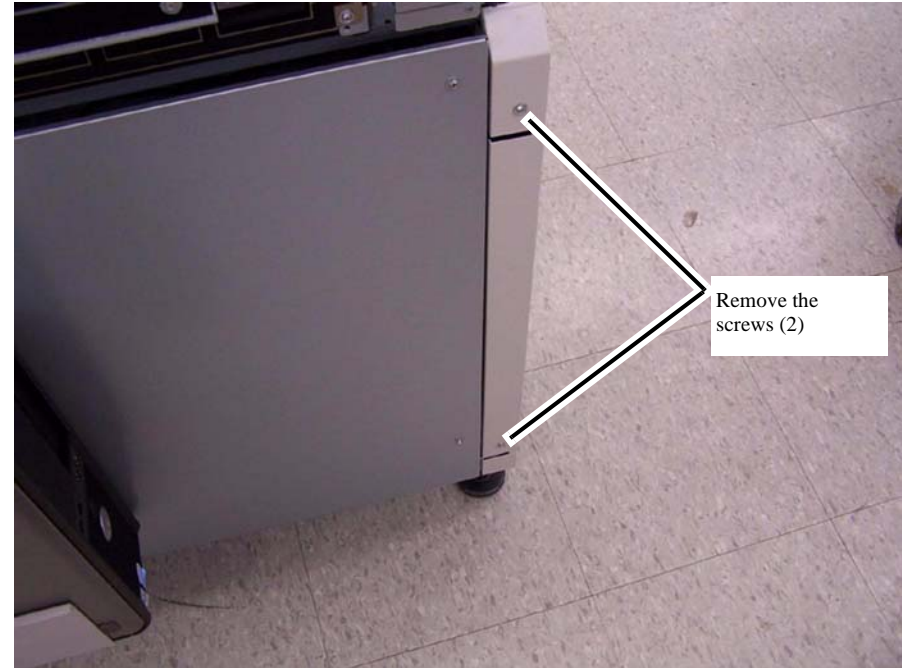

Figure 1 Left Lower Cover rear mounting screws
2. Remove the rear mounting screws (2) (Figure 1).